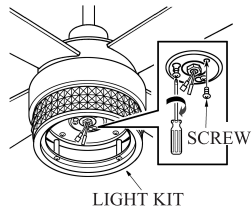

FIG.14
3. Retighten the three screws.(see Fig.14)